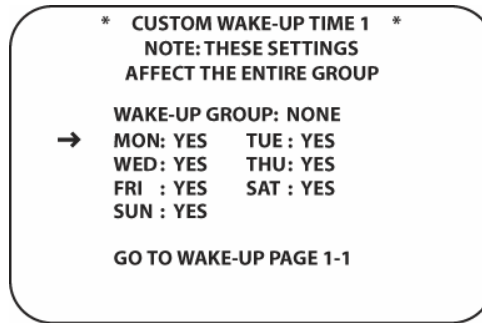

Figure 114 Custom Wake-Up Time 1
3. To configure a custom schedule, with the cursor next to WHEN, press the ◀/▶ **Navigation Button [oval 16]** until CUSTOM appears on screen. Press the **Set Button [oval 18]**. The CUSTOM WAKE-UP TIME 1 screen will appear. (Figure 114)